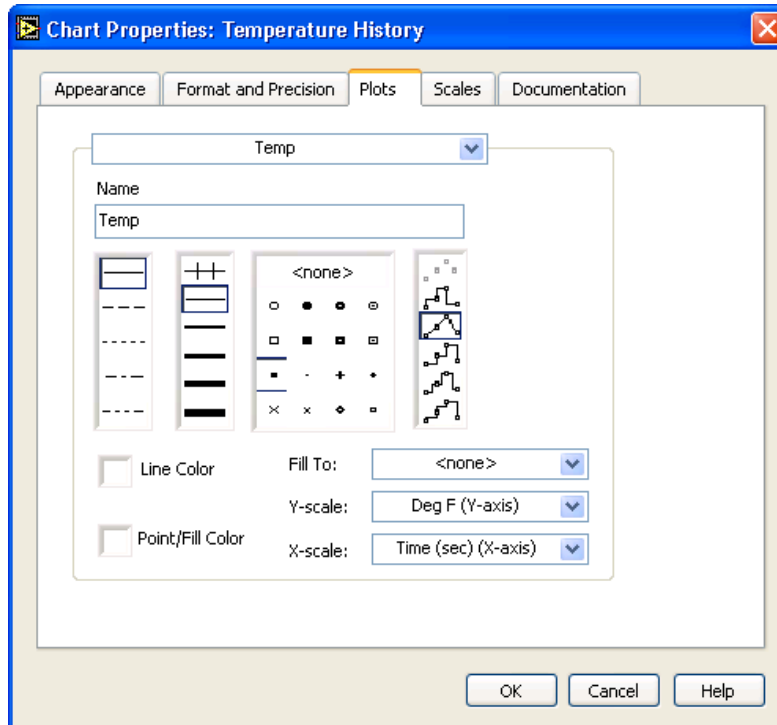

Figure 5.7
- c. Click the **Plots** tab and select different styles for the y-axis, as shown in Figure 5.7.